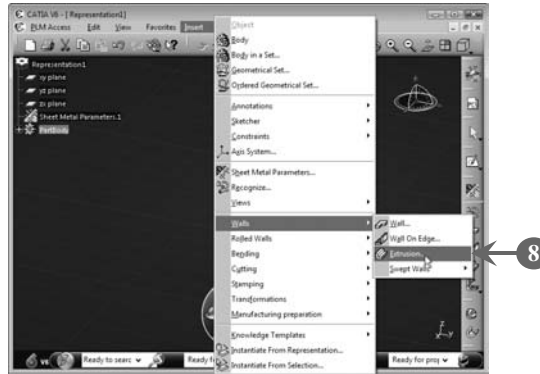

FIGURE 6.19
8. Select **Insert > Walls > Extrusion** from the menu bar to create an extrusion wall, as shown in **Figure 6.19**: